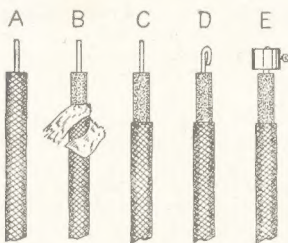

Fig. 1—Stages in preparation
The illustration at Fig. 1 indicates the stages of preparing a single stranded conductor end. In view (A), the insulation is shown trimmed back right up square with the rubber and outer covering of tape and braiding. This idea is not a good one, since the tape and braid tend to set up a certain amount of condensation which must be avoided.